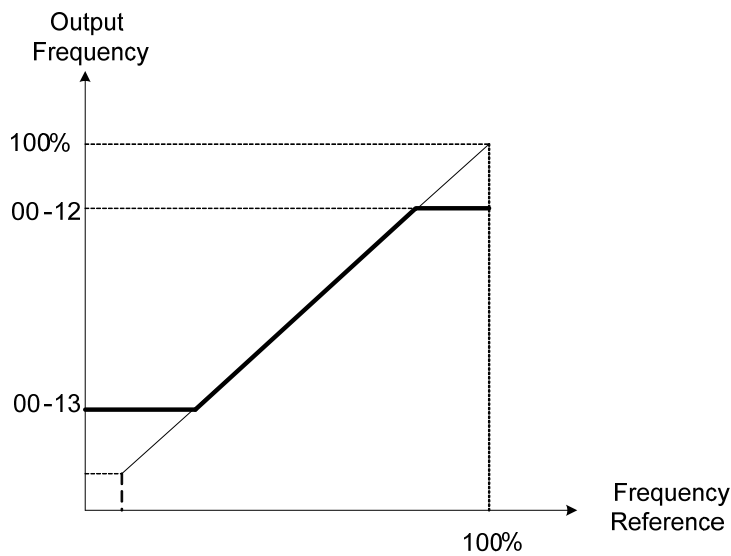

Figure 4.3.6 Upper and lower limits of frequency reference
- . Please refer to Figure 4.3.6